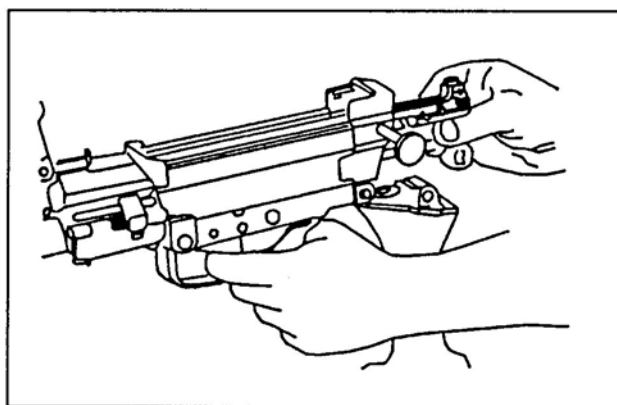

Figure 31. Replacement of the operating rod, slide assembly, and bolt assembly.
- (3) Put the assembled parts into the receiver with the feed cover open. Align and place the bolt lugs; slide the cutouts carefully onto the receiver rails. Press the trigger and at the same time, push the parts all the way forward (Figure 31).